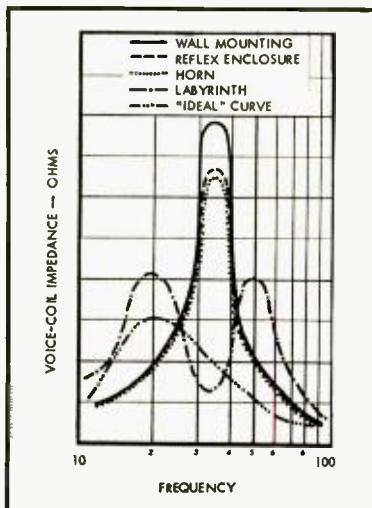

Fig. 30. Impedance curves of identical speakers mounted in various ways.
*The Wall Mounting or Infinite Baffle.* The main virtue of this is the absence of resonances above the loudspeaker resonance, the damping due to air loading is low at resonance, and although this makes for higher efficiency, excessive cone movement at resonance may cause distortion. Typical impedance curves for identical speakers mounted in these four types of enclosure are given in Fig. 30.
In the analogy, these conditions are fulfilled by the velocity curve shown dotted in Fig. 30 and the corresponding analogous circuit shown in Fig. 31 where series inductive and resistive elements are added to the cone circuit.